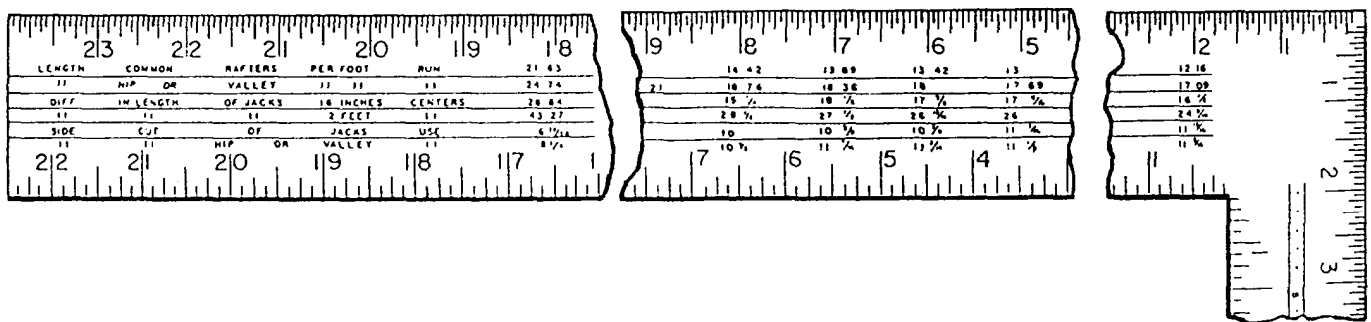

Figure 2-16.—Rafter table on face of a steel square.
Framing squares are available with a rafter table printed on the face side (fig. 2-16). The rafter table makes it possible to find the lengths of all types of rafters for pitched roofs, with unit of rises ranging from 2 inches to 18 inches. Let’s look at two examples:
Step 3. Multiply the total run (12.5) by the length of the common rafter per foot of run (13.42 inches) (fig. 2-16):